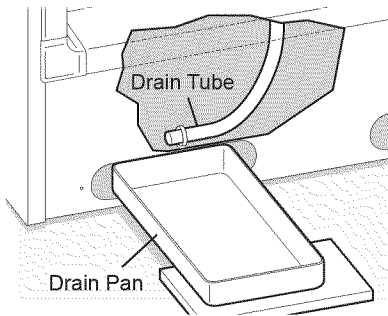

Figure 1
- **On upright models with a defrost drain** (Figure 1), remove drain plug on the inside floor of the freezer by pulling straight out. To access external drain tube on models with a base panel, first remove the two screws from the base panel. Locate the drain tube near the left center under the freezer. Place a shallow pan under the drain tube. Defrost water will drain out. Check pan occasionally so water does not overflow. A  $\frac{1}{2}$ " garden hose adapter can be used to drain the freezer directly into a floor drain. If your model is not equipped with an adapter, one can be purchased at most hardware stores. Replace the drain plug when defrosting and cleaning are completed. If the drain is left open, warm air may enter the freezer.